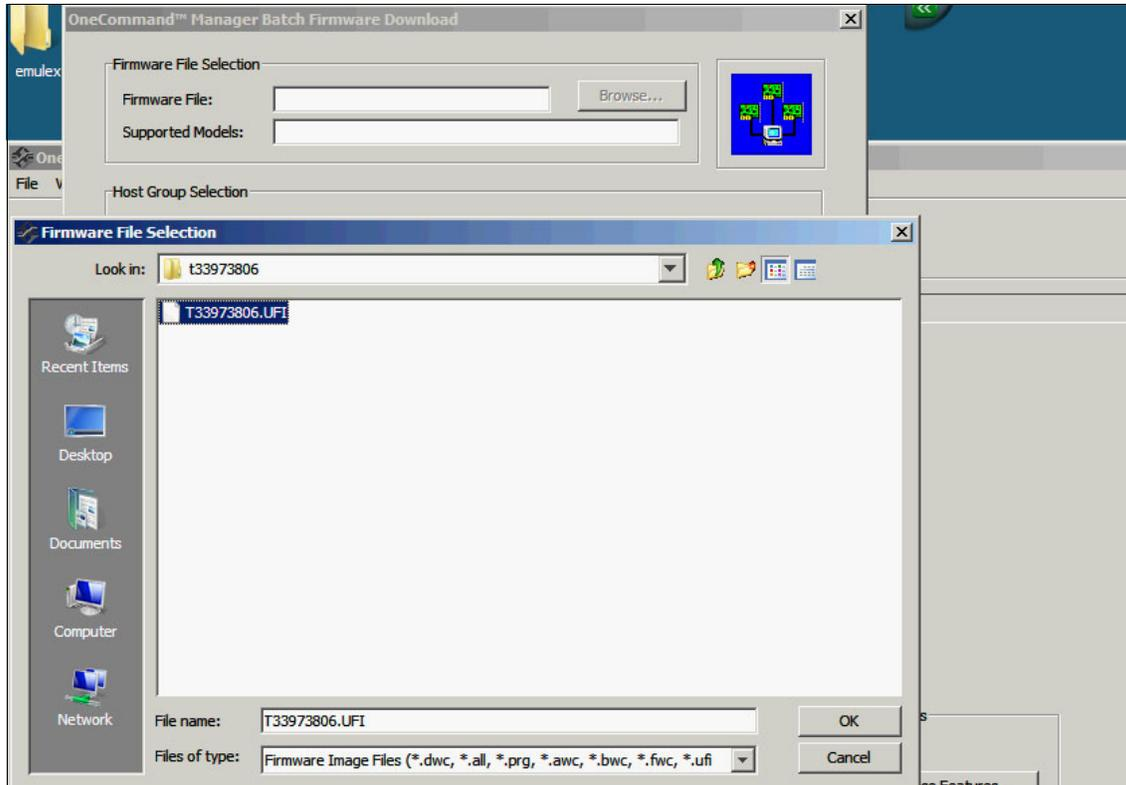

Figure 10-103 Firmware File Selection window
- b. In the Firmware File Selection window (Figure 10-103), select the **xxx.UFI** update file. For this example, we selected the **T33973806.UFI** file. Click **OK**.